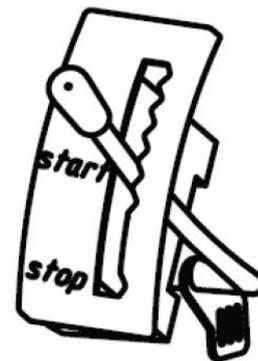

Fig 7
(3) Open the throttle operating rod (see Fig 7).